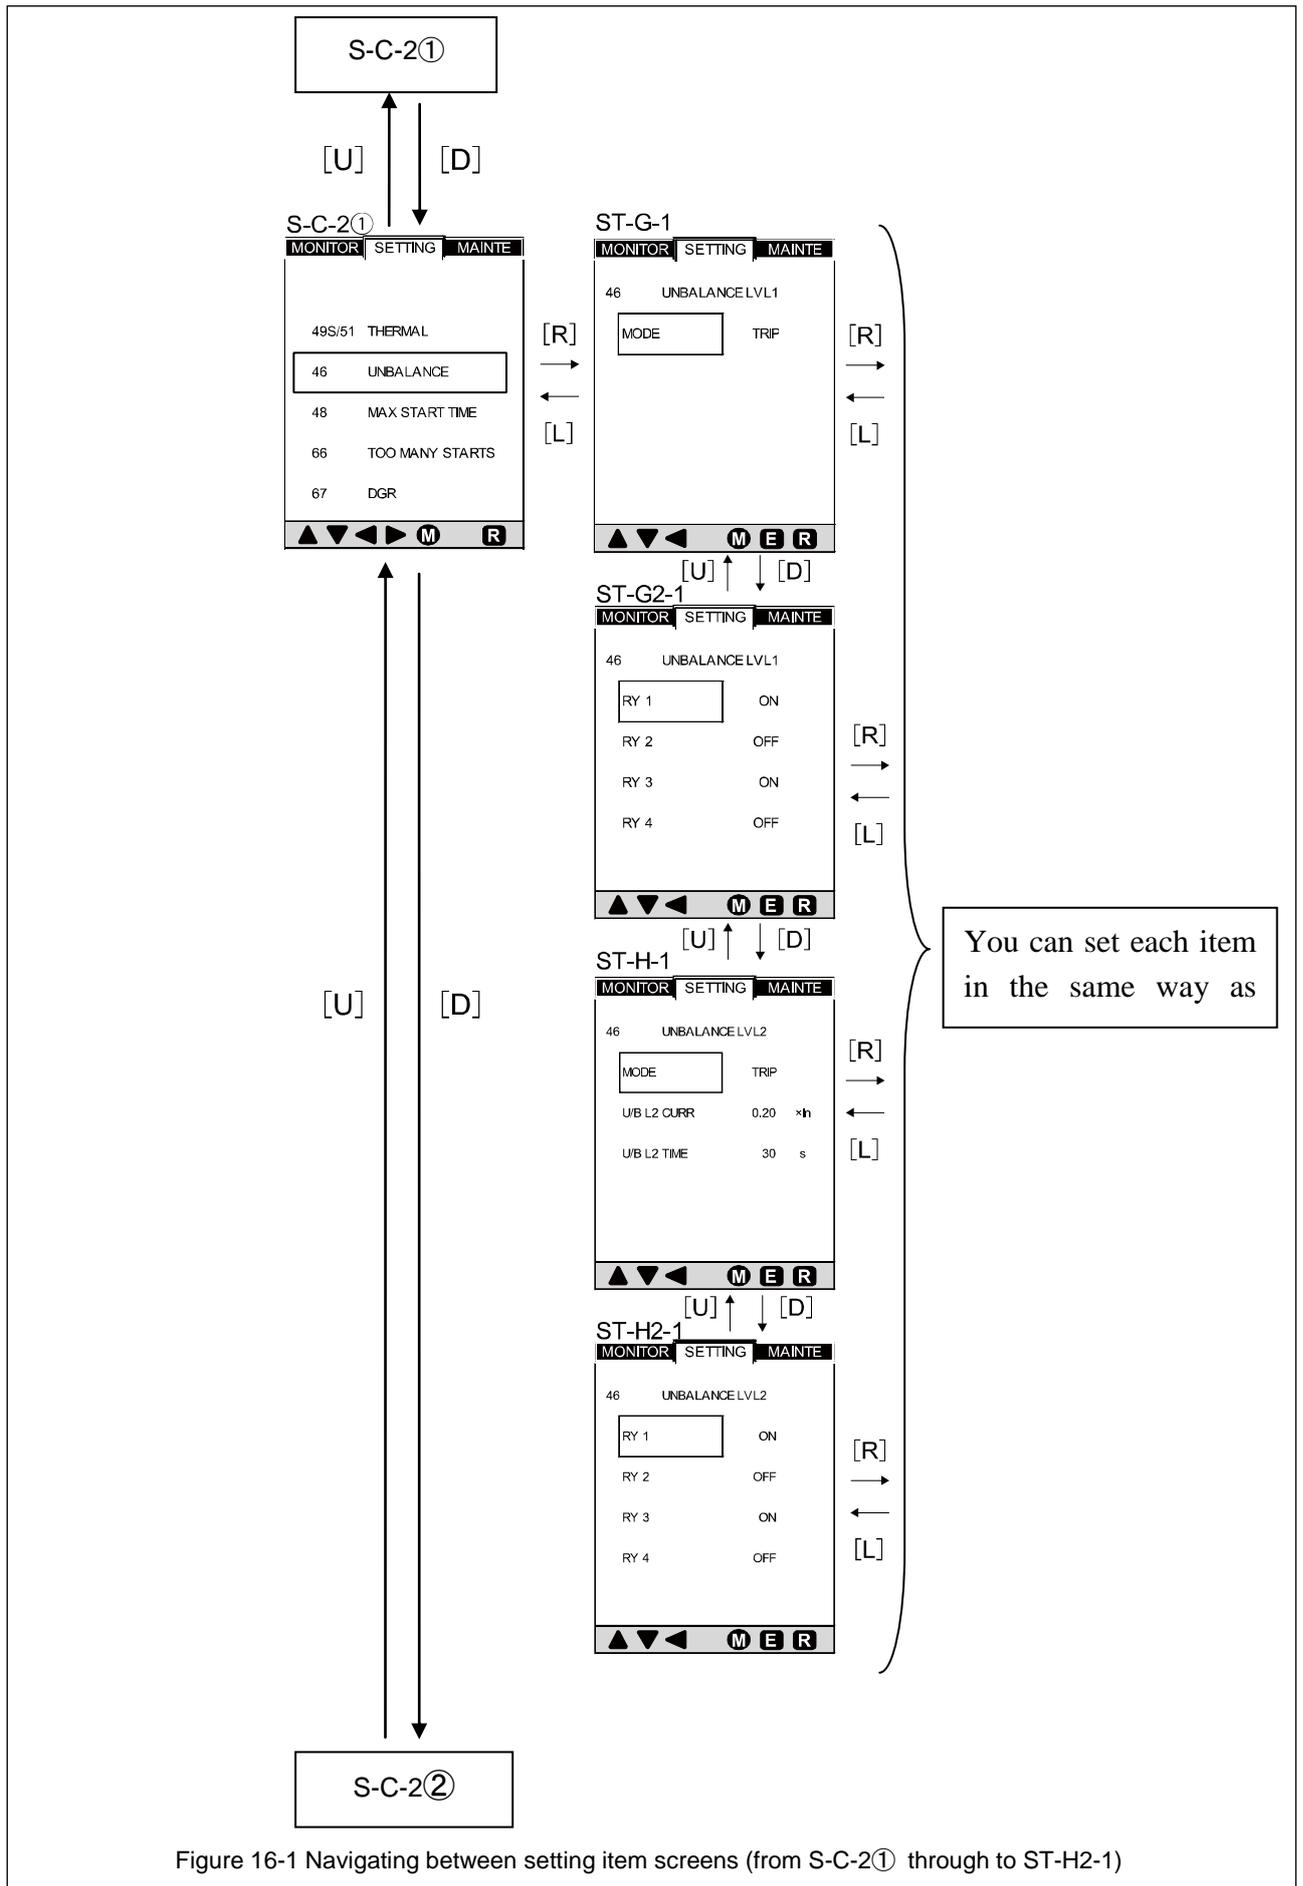

Figure 16-1 Navigating between setting item screens (from S-C-2① through to ST-H2-1)
Figure 16-1 shows how to navigate between setting item screens (from S-C-2① through to ST-H2-1). See Table 11-1 for items that are actually displayed on the screen.